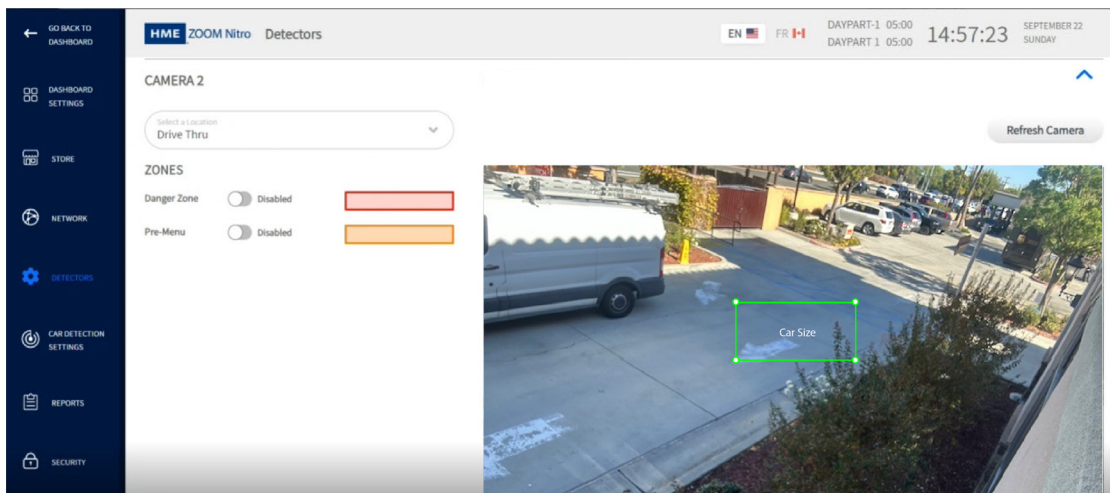

Fig. 18
5. With the Camera Preview now displayed (Fig. 18), determine if the view is good enough to draw zones. If not, the camera angle will need to be adjusted. After each adjustment use the "Refresh All Cameras" button for the preview image to update to the new angle.